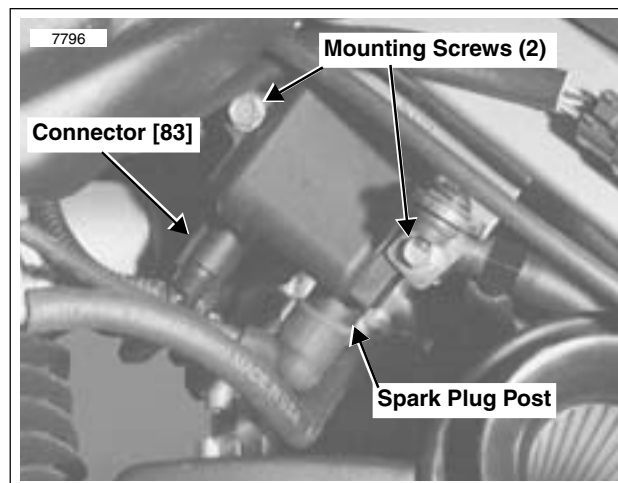

Figure 7-24. Ignition Coil (Left Side)
See Figure 7-24. The ignition coil is mounted on the frame underneath the fuel tank on left side above airbox.
- 5. See Figure 7-24. Disconnect spark plug cable from coil plug post.
- 1. See Figure 7-24. Apply LOCTITE THREADLOCKER 243 (Blue) to threads of two mounting screws.
- 2. Attach coil to frame with screws and washers (1). Tighten to 4-6 ft-lbs (5-8 Nm).